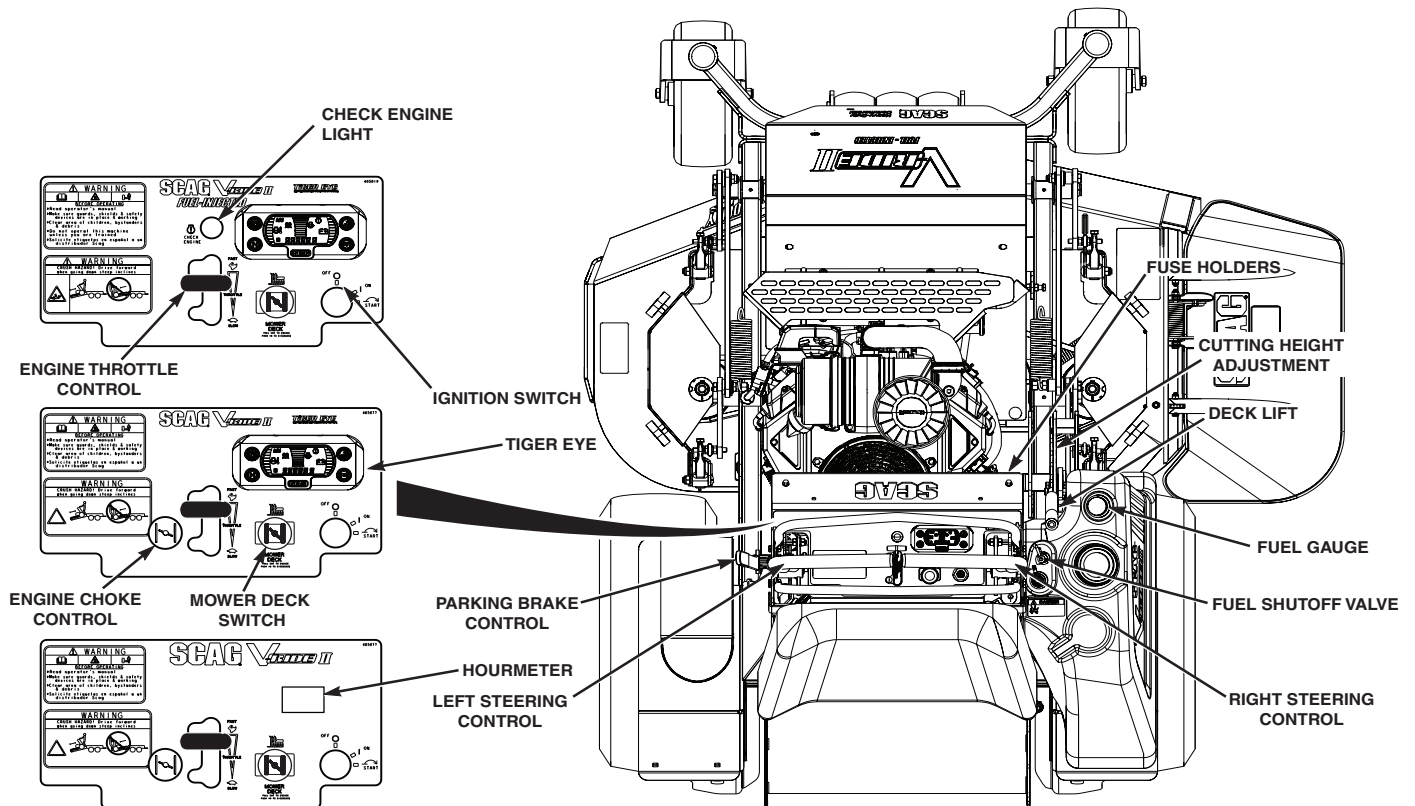

Figure 4-2. Controls and Instruments
1. **Ignition Switch (Figure 4-2).** For electric start models, the ignition switch is used to start the engine and has three positions; OFF, ON, and START.
2. **Mower Deck Switch (Figure 4-2).** Used to engage and disengage the mower drive system. Pulling up on the switch will engage the deck drive. Pushing down on the switch will disengage the deck drive.
3. **Engine Choke Control (Figure 4-2).** Used to start a cold engine.
4. **Engine Throttle Control (Figure 4-2).** Used to control the engine speed. Pushing the lever forward increases engine speed. Pulling the lever back decreases engine speed. Full back position is the IDLE position. Full forward is the cutting position.
5. **Check Engine Light (Figure 4-2).** Indicates the operation of the engine sensors on the Fuel Injection Engines (EFI). If a problem occurs with a sensor on the engine, the light will flash a code. See your authorized Scag Dealer for diagnosis and repair.
6. **Left Steering Control (Figure 4-2).** Used to control the mower's left wheel when traveling forward or reverse. See Section 4.5 for further details regarding the mower's travel controls.
7. **Right Steering Control (Figure 4-2).** Used to control the mower's right wheel when traveling forward or reverse. See Section 4.5 for further details regarding the mower's travel controls.
8. **Parking Brake Control (Figure 4-2).** Used to engage and disengage the parking brakes and lock the steering handles in neutral. Pull the lever back to engage the parking brakes. Push the lever forward to disengage the parking brakes.
9. **Deck Lift Lever (Figure 4-2).** Used to raise and lower the cutter deck.
10. **Cutting Height Adjustment (Figure 4-2).** Used to set the cutter deck at the desired cutting height.
11. **Fuel Tank Gauge (Figure 4-2).** Indicates the amount of fuel in the fuel tank.
12. **Fuse Holders (Figure 4-2).** Two 20-amp fuses protect the mower's electrical system. To replace fuses, pull fuse out of the socket and install a new fuse.
13. **Hourmeter (Figure 4-2) SVR11-32/36A Only.** Indicates the number of hours the engine has been operated. It operates whenever the engine is running. Has preset maintenance reminders for engine and hydraulic system oil changes. Will start flashing scheduled maintenance 2 hours before preset time and continue flashing until 2 hours after. Automatically resets
14. **Fuel Shutoff Valve (Figure 4-2).** Located on top of the fuel tank. Used to shut off fuel supply to the engine. Rotate the valve counter clockwise to supply fuel from the tank to the engine. Rotate the valve clockwise to shut off the fuel supply to the engine.